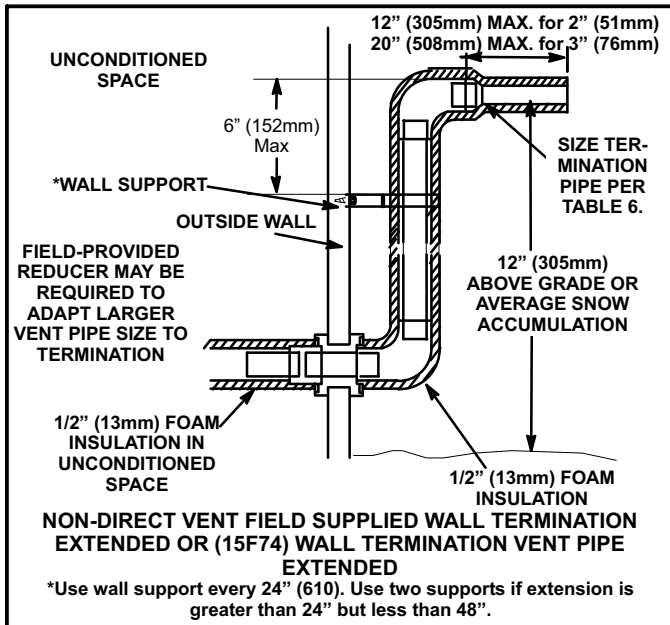

FIGURE 33
- 3 - If exhaust piping must be run up a side wall to position above snow accumulation or other obstructions, piping must be supported every 24 inches (610mm) as shown in figure 33. When exhaust piping must be run up an outside wall, any reduction in exhaust pipe size must be done after the final elbow.